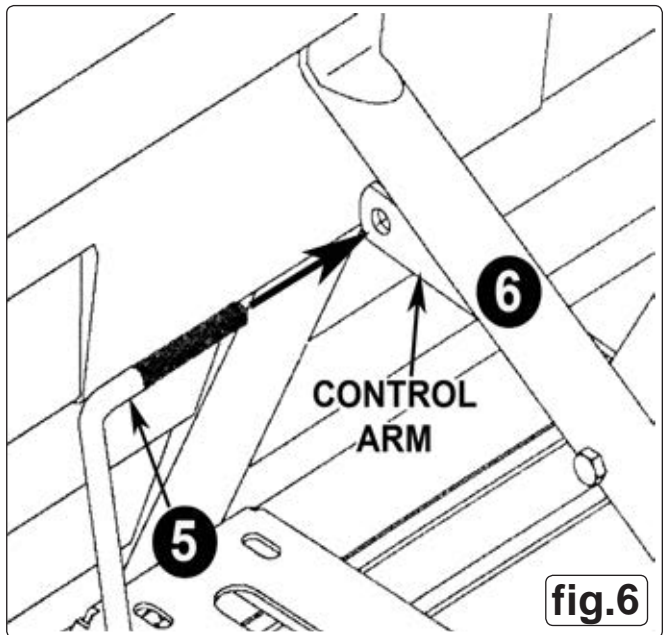

fig.6
- 4.10. Feed the connecting rod (5) through the hole in the control arm on the flow control handle (6) as shown in figure 6, until the connecting rod is central in the control arm.